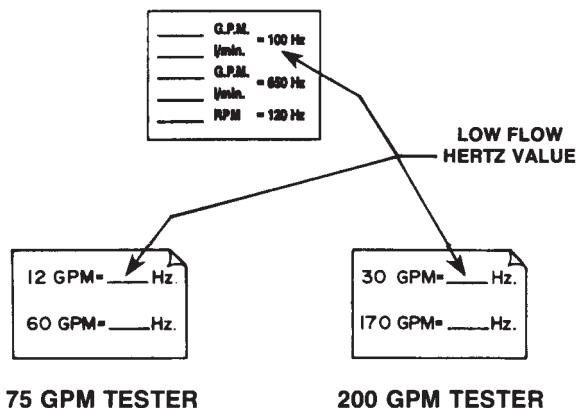

FIGURE 1. CALIBRATION DECAL(S)
Note: The calibration decals shown in Figure 1 are examples only. Refer to the decal in your tester for the specific flow settings for your tester.
4. Find the LOW FLOW Hz. value on the calibration decal found on the inside bottom of the electronic mounting box and dial this value on the calibrator. (See Figure 1.)